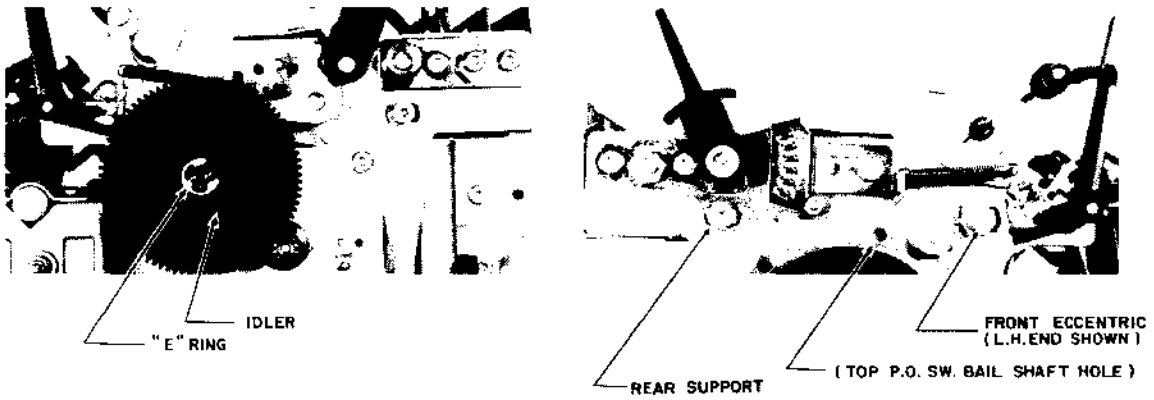

Figure 3-9. Carrier System Removal—B
- (5) Return the printer to its upright position. Remove the two mounting screws and spacers from the fan on the left side of the Carrier Subassembly and lay the fan next to the printer. Move to the right side and cut the tie wraps from the wire bundle mounted to the paper feed motor.
- (6) Remove the E-ring, the paper feed idler gear, and the felt washer (see Figure 3-9) to facilitate easy access to the right-hand carrier height eccentric.
- (7) Using a 1/4" wrench or nut driver, remove the left- and right-side front Carrier Subassembly height adjustment eccentrics. Using a TORX T15 screwdriver, remove the left- and right-hand rear Carrier Subassembly support shoulder screws (see Figure 3-9).
- (3) Insert the left- and right-hand rear Carrier Subassembly shoulder support screws using a TORX T15 screwdriver (see Figure 3-9). Make sure the screw shoulders pass into the slots in the Carrier side frame, and tighten the screws firmly. DO NOT over-tighten and strip the threads from the holes in the main frame casting.
- (4) Insert the left- and right-hand front Carrier Subassembly height adjustment eccentrics using a 1/4" wrench or nut driver. Make sure the shoulders of the eccentrics pass into the slots in the Carrier side frames, and thread the screws in far enough to retain the eccentrics snugly in the slots, but DO NOT tighten. The eccentrics should be positioned so their lobes point toward the rear of the machine.
- (5) Install the fan on the left side of the Carrier Subassembly so that the standoffs rest between the Carrier's side frame and the fan mounting bracket. Tighten the two fan mounting screws with a TORX T15 screwdriver.